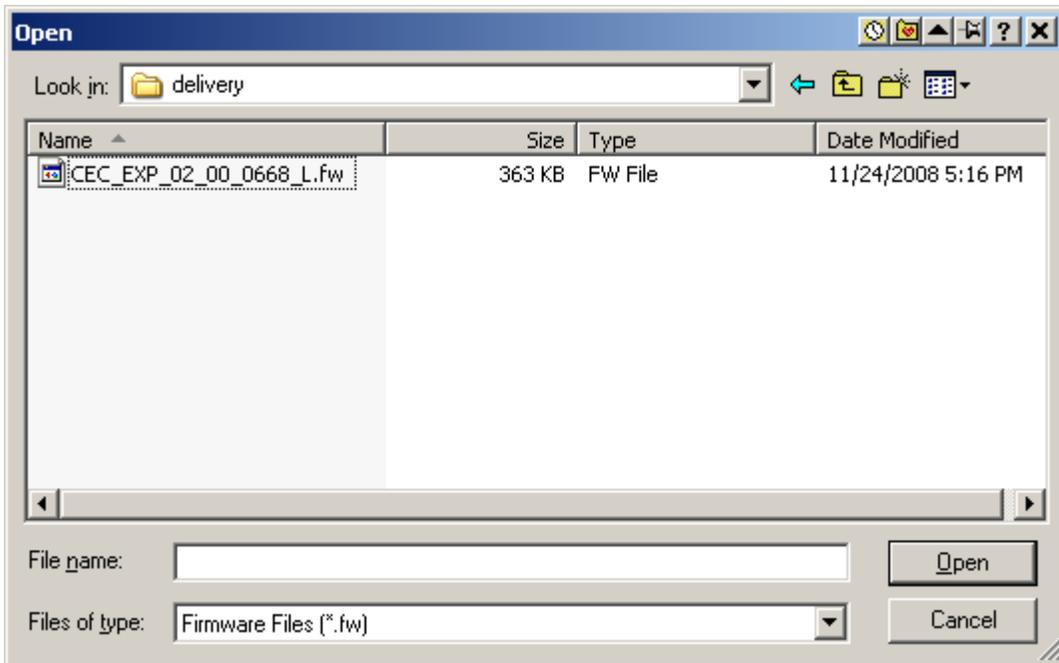

Figure 10: LAN Update Application, file dialog for firmware file
- Press the button “Select File” to select the firmware file (\*.fw) that shall be used for the update (Figure 10)